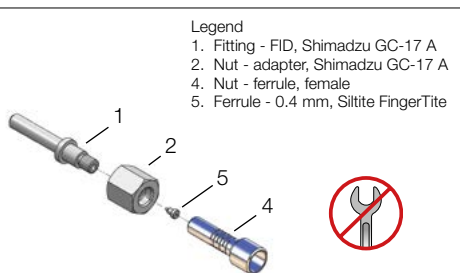

Figure 3. Exploded diagram of the SilTite FingerTite assembly.
3. Locate the adapter FID (3), nut adapter (2) and assemble as displayed in the Figure 3, ensure the sealing ring is fitted prior to installation, as these have a tendency to fall off.